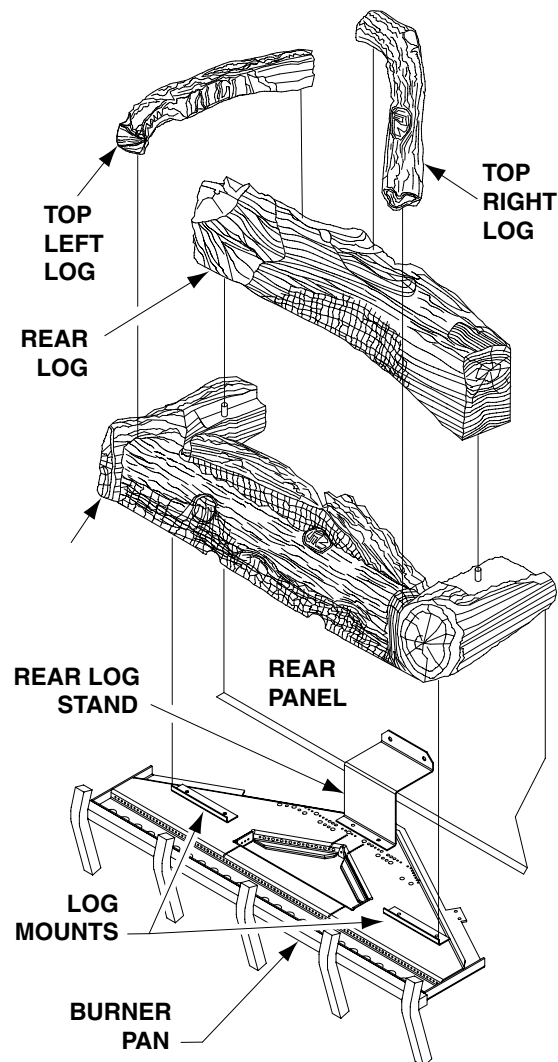

Figure 31 - Installing Logs
1. Position the base log onto burner log mounts. (see **Figure 31**).
2. Position the holes on the bottom of the rear log over the pins on the base log **Figure 31**).
3. Position the top left log and top right log onto the rear log and base log as shown in (see **Figure 31**).